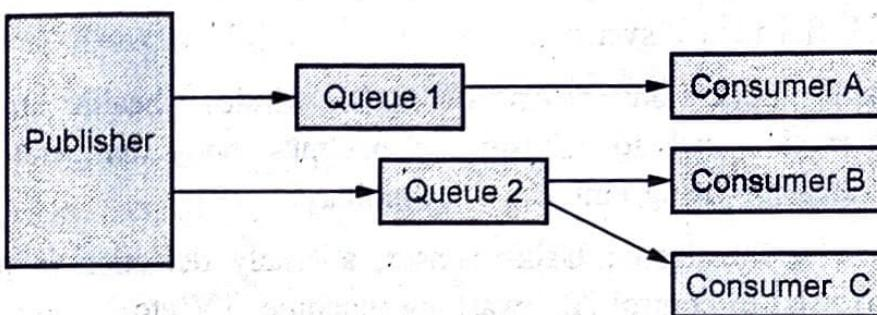

Fig. Q.10.2 Push-Pull model
- Fig. Q.10.2 shows push-pull model.